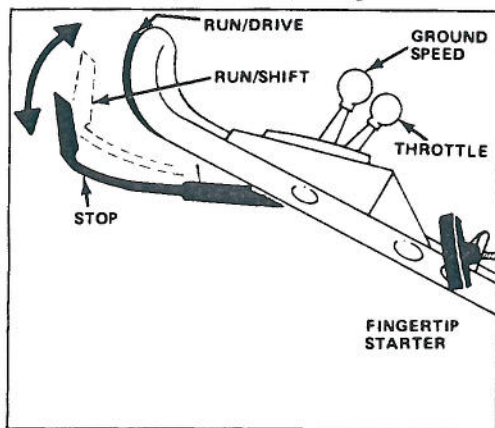

Figure 10
4. STARTING (Model 20620)—Move ground speed control to "N" and throttle to CHOKE. Lift control bar to RUN/DRIVE position and hold. Pull fingertip starter and regulate throttle as desired when engine starts (Fig. 10). When temperature is near 40°F, a few extra pulls may be required because the engine needs priming.
5. TRACTION OPERATION (Model 20620)—Allow control bar to move into the RUN/SHIFT position. Move ground speed control to desired setting and squeeze control bar against handle to drive. Ground speed varies, depending on space between control bar and handle. (Fig. 10).